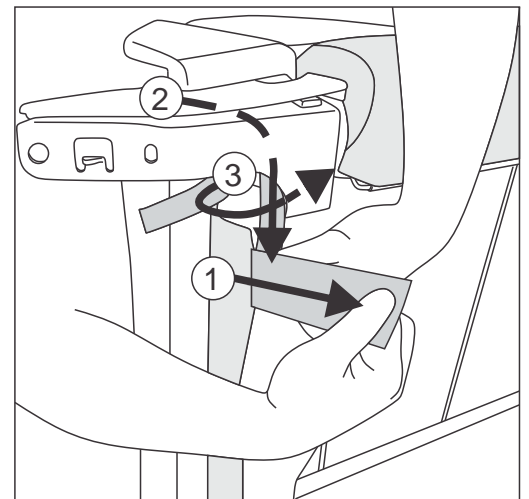

Fig. 6.3
6.3. Hold thicker hook tape (1) up and place loop tape (2) under it then attach thicker hook tape to back of backrest. Attach thinner hook tape (3) onto loop tape and back of the backrest (Fig. 6.3)